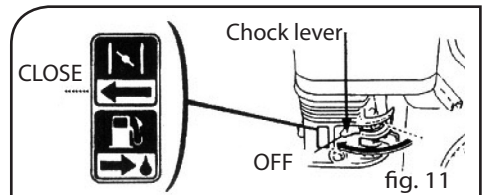

fig. 11
7. Push the choke lever to the OFF position OFF (Fig. 11).